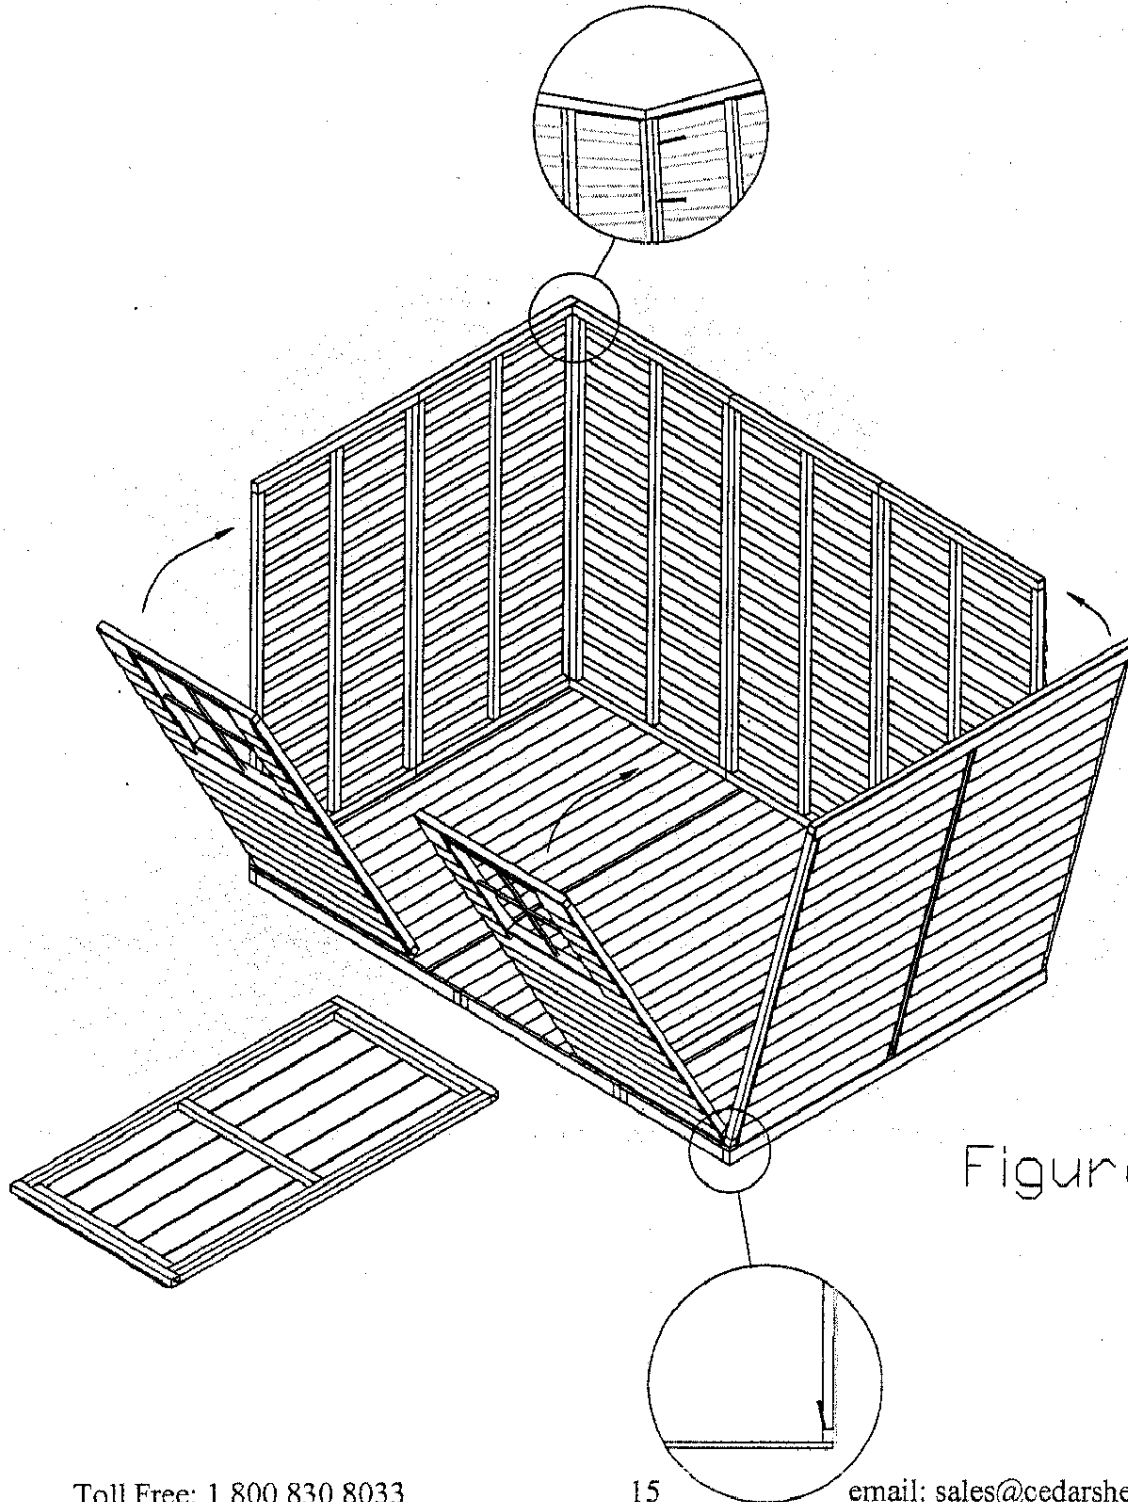

Figure C4
4. Continue as in Figure C4 by erecting the other end wall assembly. Again, the right wall panel should sit flush with the outside edge of the floor.